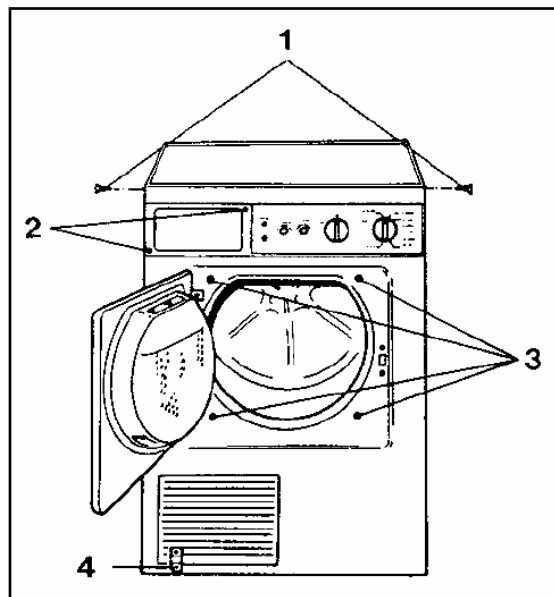

Figure 5-1: Opening the Front Panel
1. Remove the 2 screws, (refer to Figure 5-1 – Opening the Front Panel, Item 1), from the left and right lid edges.
1. Refer to Figure 5-1 – Opening the Front Panel.